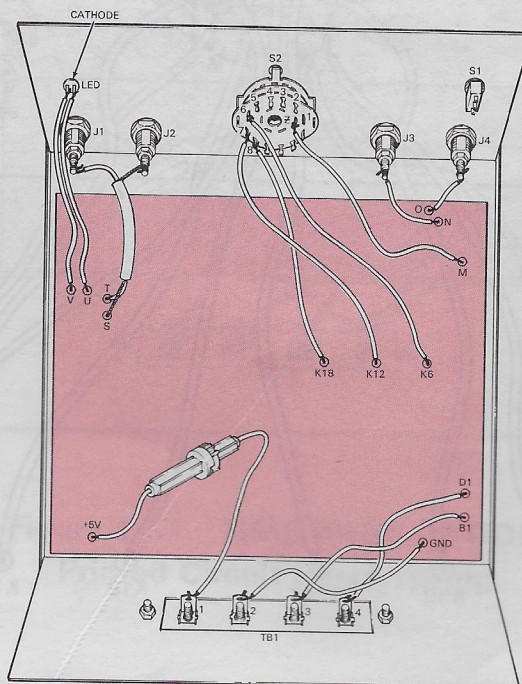

Figure 18. 60 HZ OPTION Printed Circuit Board Wiring
- ☐ Place the Printed Circuit Board in the cabinet. DO NOT MOUNT YET. You should now be ready to connect the wires from the Printed Circuit Board to the cabinet mounted components. Use the "from" — "to" information provided on the HOOK UP SEQUENCE chart and Figure 18, 60 HZ OPTION Printed Circuit Board Wiring as guides to correct point-to-point connection. Connect and solder the applicable wires to the cabinet rear panel mounted components first.
Compare your wire connections to those shown in Figure 18. Ensure that your point-to-point wiring connections are correct.